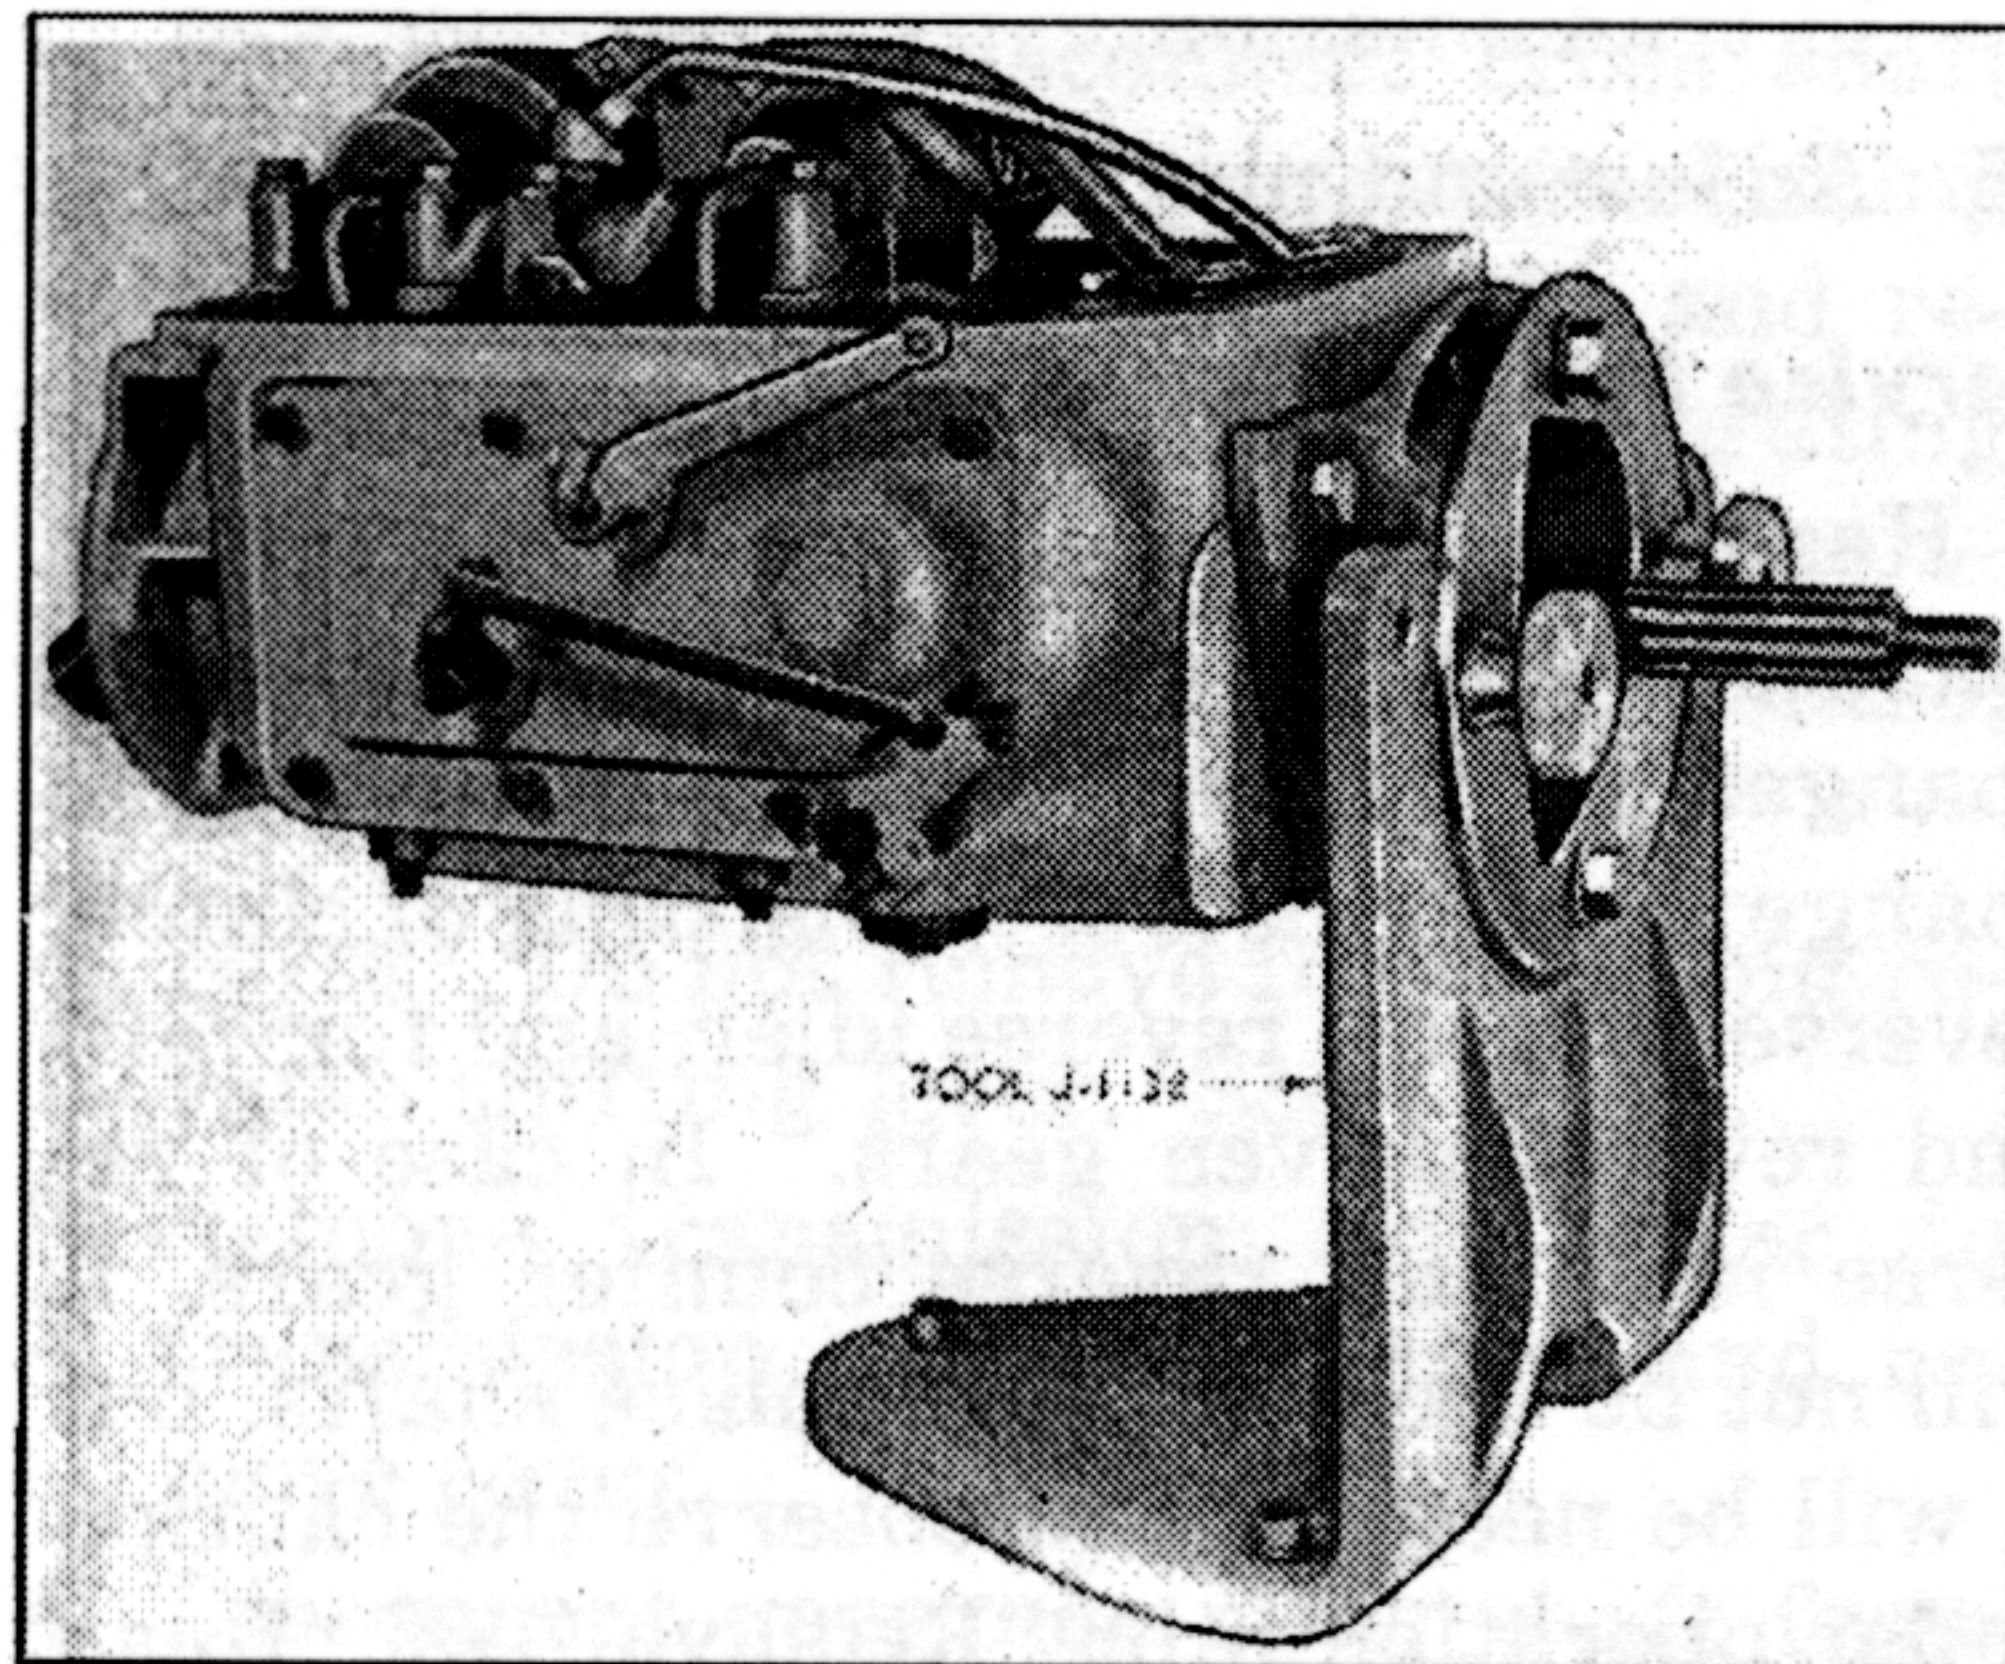

Fig. 16. Holding Stand in Use
1. Fasten transmission on support, tool J-1138. See Fig. 16. If support is not